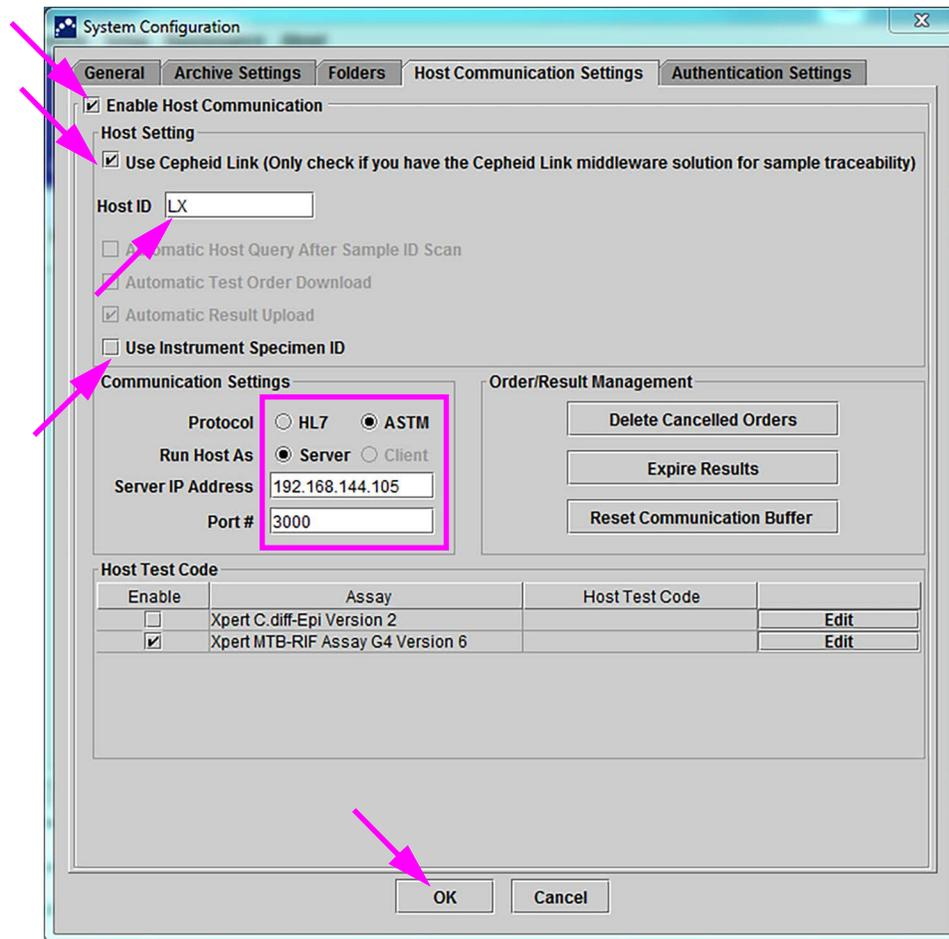

Figure 2-82. Host Communication Settings Workspace Configured for Cepheid Link
3. To enable host communication, select the **Enable Host Communication** check box in the upper left corner of the workspace (see Figure 2-82). This allows other options to be selected on the Host Communication Settings screen.
4. Select the **Use Cepheid Link** checkbox to set up the host communication for Cepheid Link. After selecting the **Use Cepheid Link** checkbox, most of the configuration will be automatically set up. See Figure 2-82.
8. After you have set up the host communications for the Cepheid Link server, select the **OK** button. See Figure 2-82.